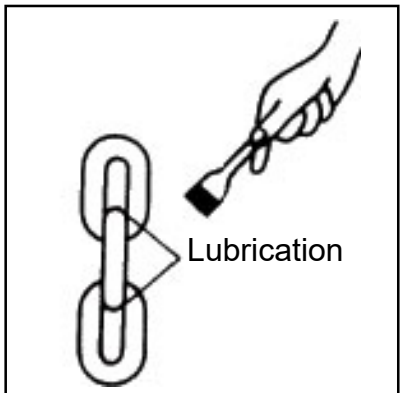

FIGURE 1
- Lubricate the load chain along the whole length with machine oil (See Figure 1)